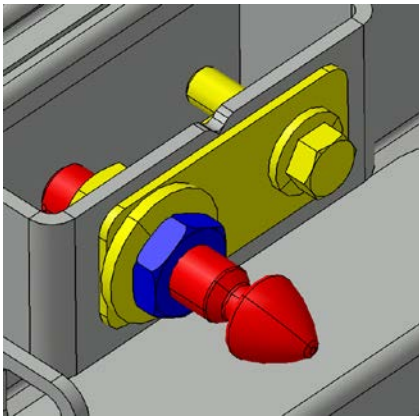

FIGURE 119
15. Use the pin to adjust the door so it is even with the adjacent steel sheet. Screw or unscrew the pin as required and then apply final tightening to the jam nut (FIGURE 119).